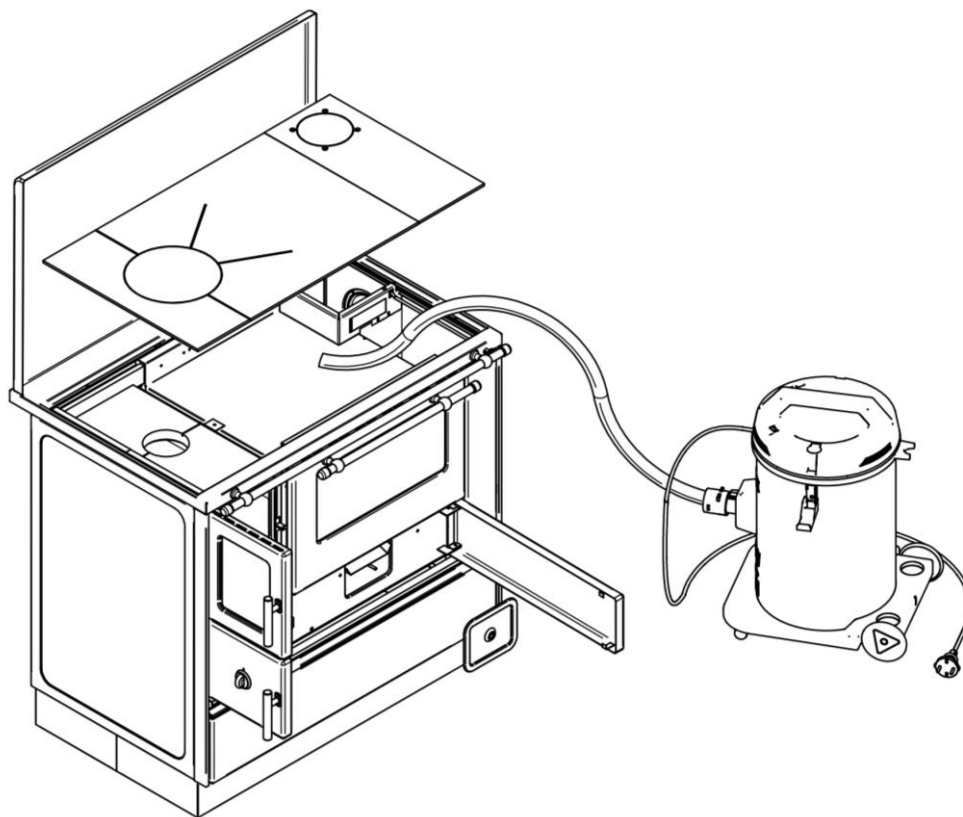

Figure 15
- Open the ash dump door, stoke by means of stoking cap (Figure 15)
- o Removal and thorough cleaning of the cooker plate are preferable to be done once in the season (Figure 15).